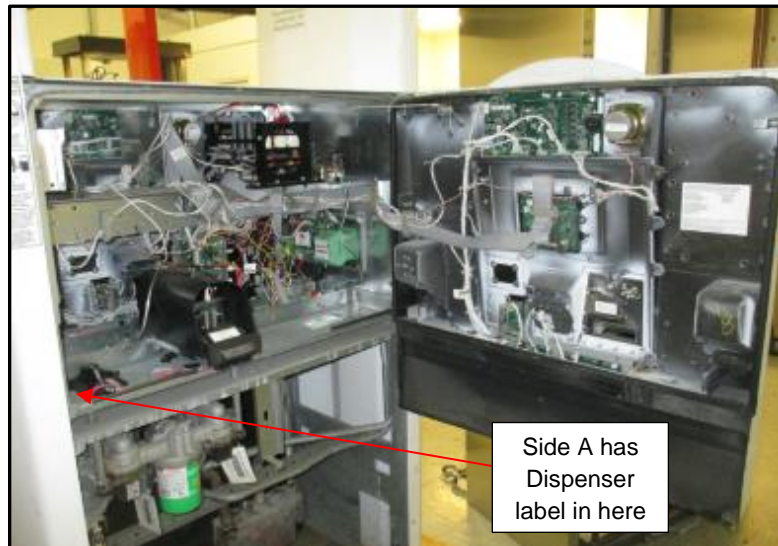

Fig 1.3 – Main Dispenser Door in fully opened position
5. Unlock the main dispenser door lock located on the upper left-hand side of the Main Dispenser Door using the “CH 751” key. Open the door until it locks into its fully open position. (Fig 1.3)